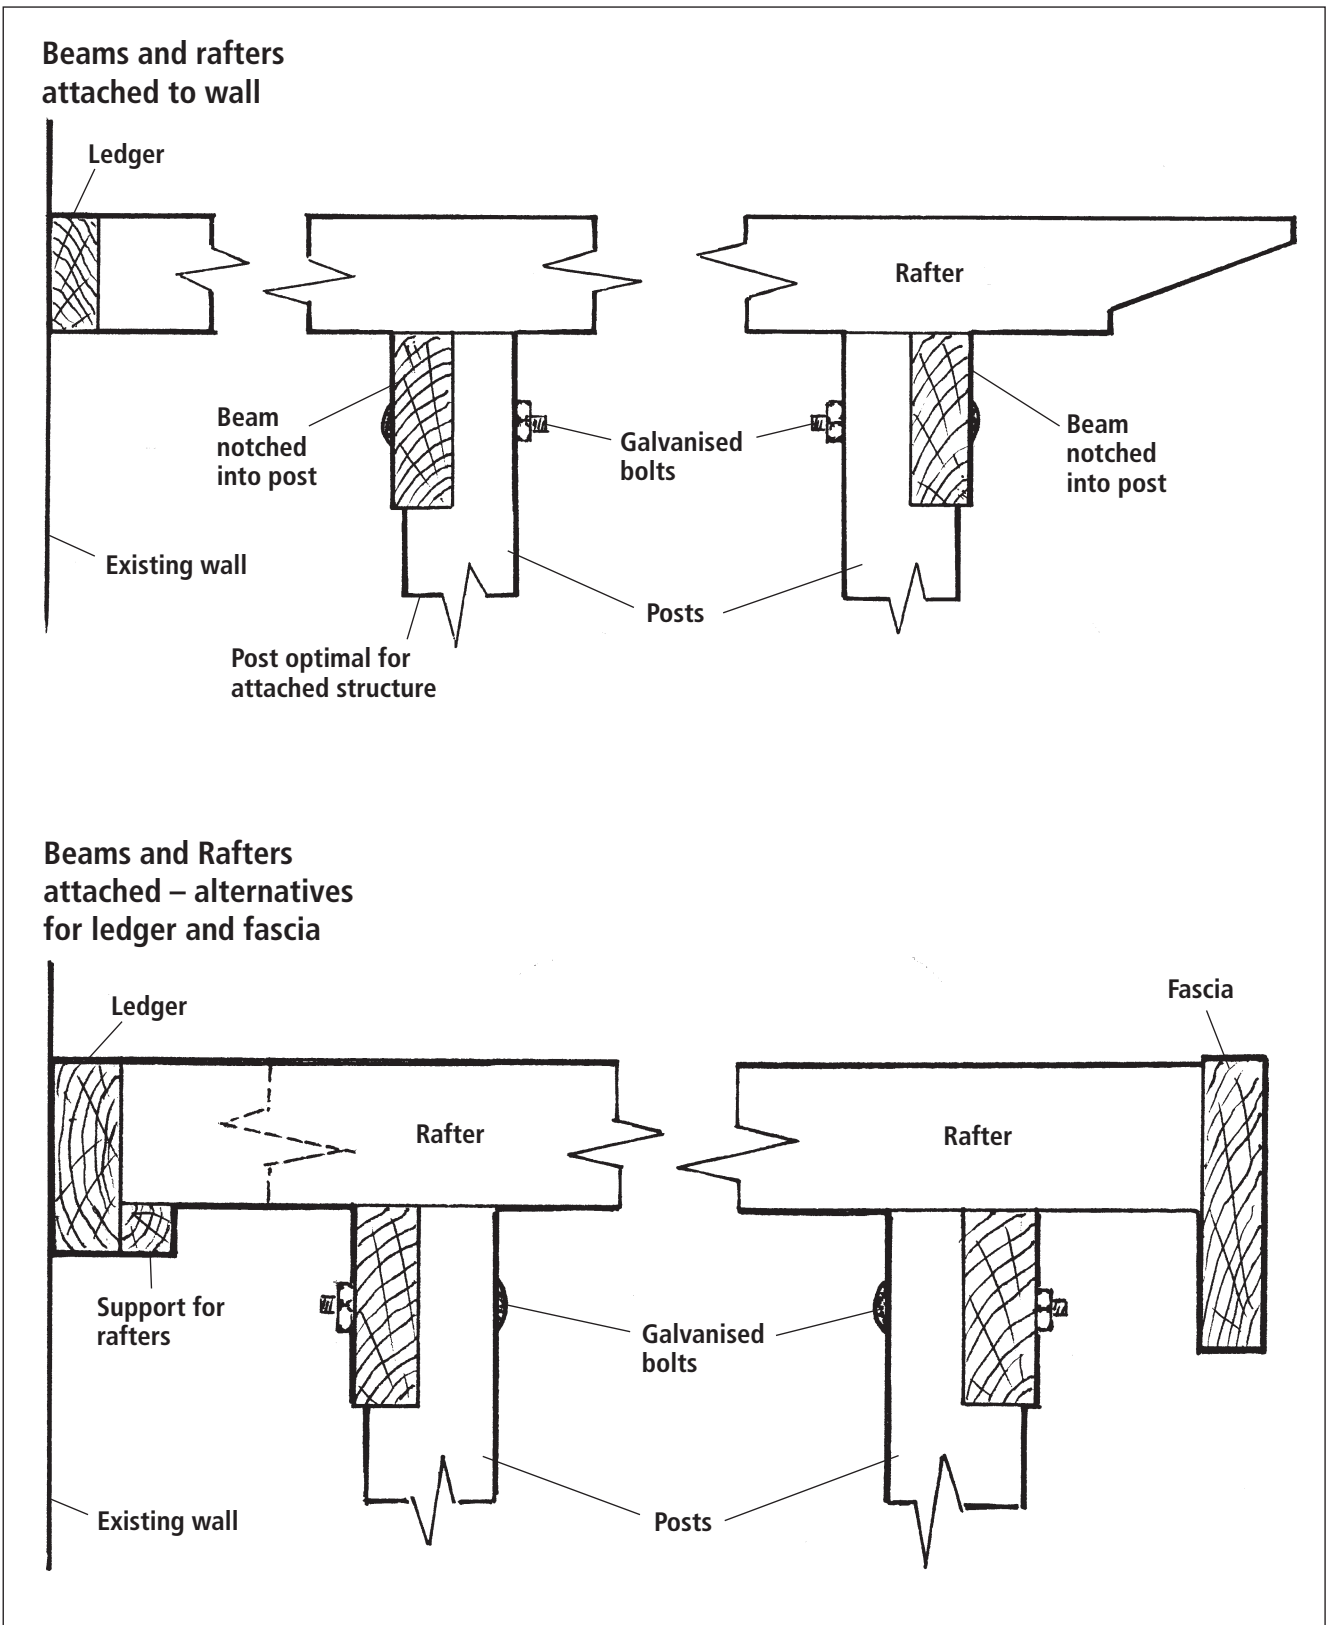

Figure 7.13
16. Attach the rafters using timber anchors, such as Trip-L-Lok or by skew nailing. The rafter can also be attached to the ledger by stopped housing joints or by resting on a cleat which has been screwed to the ledger. (See Figure 7.13, page 69.)